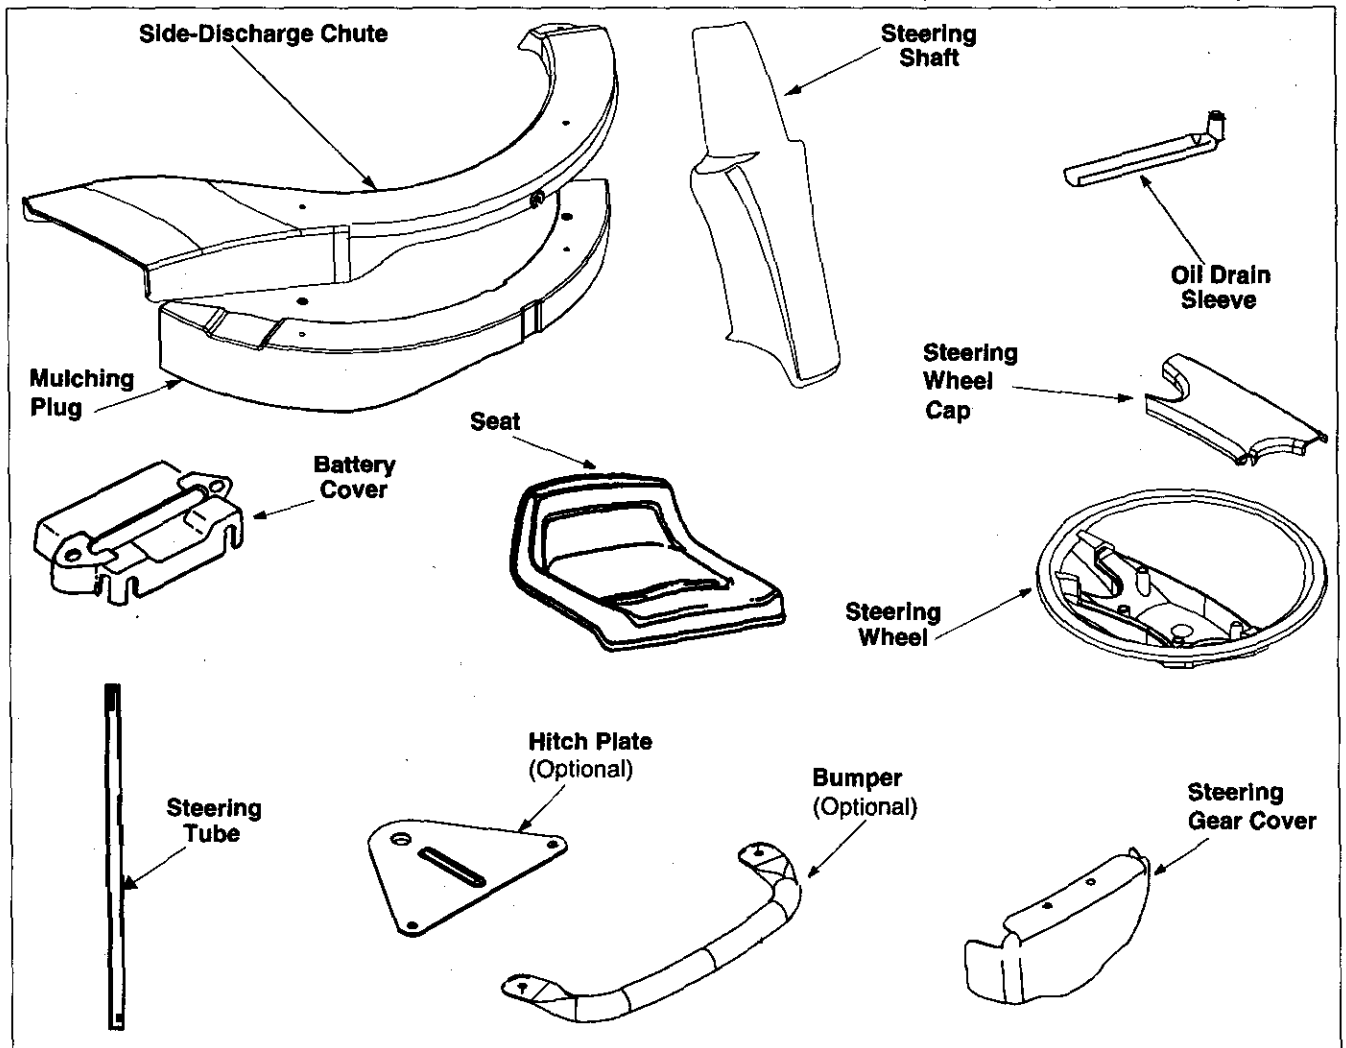

Figure 1
You will find the following loose parts in the crate. To identify these parts, see Figure 1. Remove loose parts very carefully so as not to damage or lose any.
2. Operator's manual (not shown in Figure 1)
5. Battery acid pack\* (not shown in Figure 1)
7. Ignition keys (not shown in Figure 1)